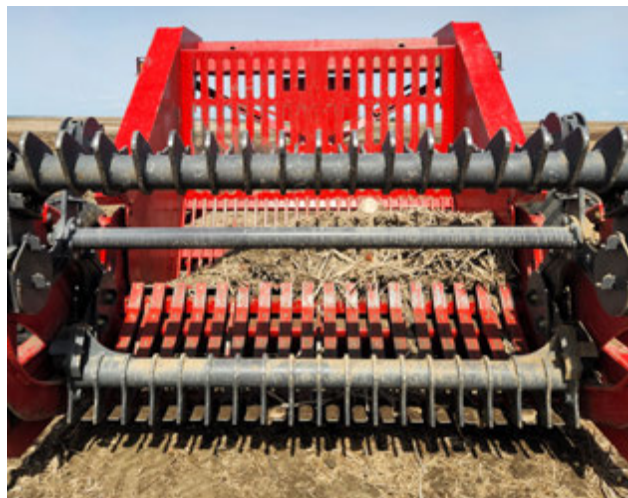

Figure 7.4: Clean out all debris
3. Clean all the debris from the bucket area and off the Rock Picker; see *Figure 7.4*.